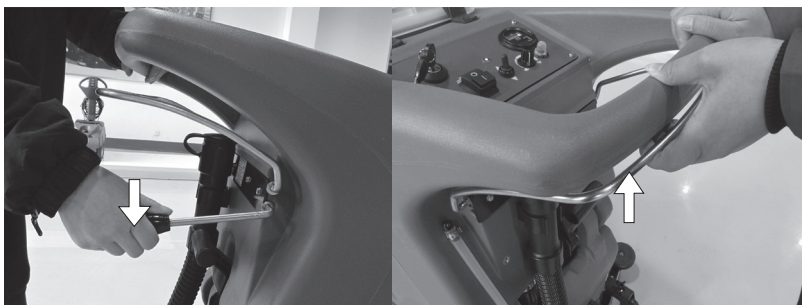

Figure 18
6. Release water valve handle and lift motor switch handle upwards to start scrubbing (Figure 18).